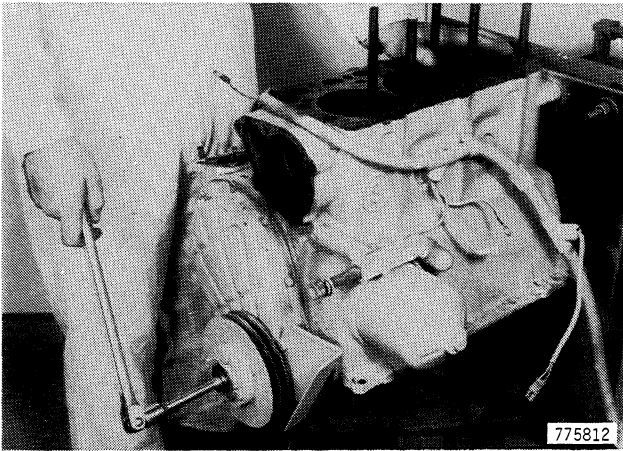

Figure 66
1. Block the crankshaft so it will not turn and remove the cap screw that holds the crankshaft pulley, Figure 66.